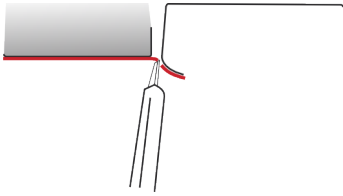

Figure 34
- ▶ After the cut, 2 to 3 mm of the film (1 to 1½ in.) should be left over the edge of the vehicle parts. (FIG. 34)